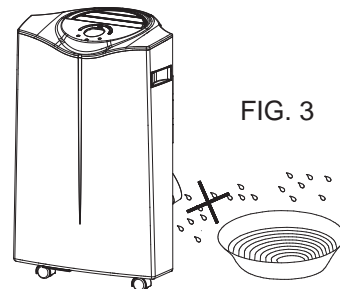

FIG. 3
- DO NOT USE THIS UNIT IN EXCESSIVELY HUMID OR WET ENVIRONMENTS (FIG 3).